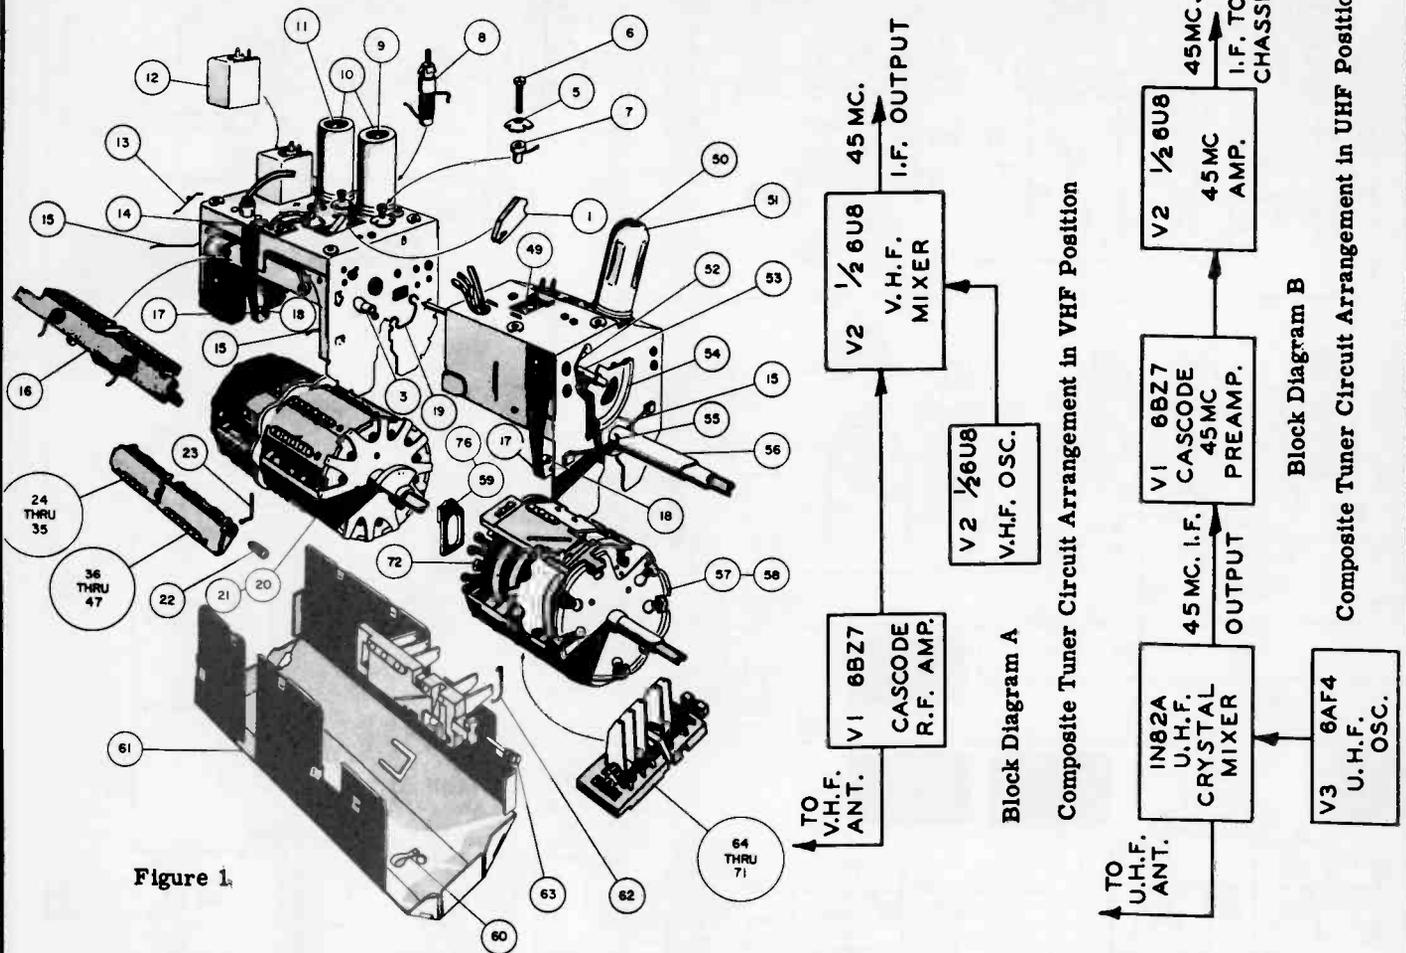

Figure 1.
Figure 1 shows an exploded view of the composite Standard Coil tuner. It can readily be seen that separate UHF and VHF assemblies have been combined mechanically and electrically to form the complete unit. Three concentric shafts are used to drive all of the UHF/VHF switching and tuning elements. Of these, the inside shaft rotates a 12 position VHF turret assembly and, ganged to this same shaft, three cam shape dielectric sections that tune the UHF decade coils through the UHF digit positions. The center shaft rotates the UHF decade turret and with an attached double action cam tilts the 45 MC I.F. rocker bar into position for UHF operation. The third or outside shaft drives the ganged VHF and UHF fine tuning capacitors.
The remainder of the antenna circuit consists of a portion of the UHF decade coil assembly (D on the schematic diagram) plus trimmers C33 and C34, choke L6 and capacitor C164. Tuning coils L22 and L23 are connected to capacitor blades which are imbedded in the coil board assembly proper (see item 64 to 71, figure 1). UHF channels within the range of a particular decade coil are tuned by movement of cam shaped dielectric sections which mechanically fit between these capacitor blades. To cover the entire UHF band eight separate decade coil board assemblies are switched in and out of the circuit by rotation of the UHF turret assembly (item 57, 58, shown in figure 1).